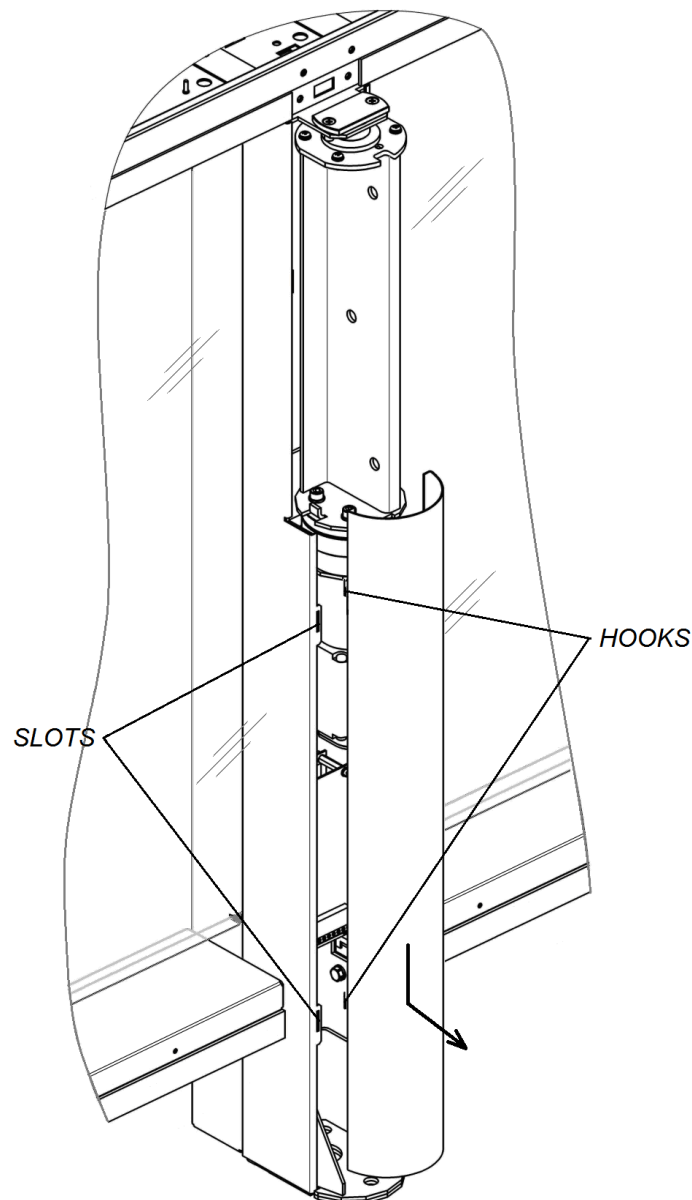

Figure 21. Removal of the central post cover plate
To remove the central post cover plate (5), pull the cover plate down along the post and towards yourself, bringing the cover plate hooks out of slots in the central post (Fig. 21).